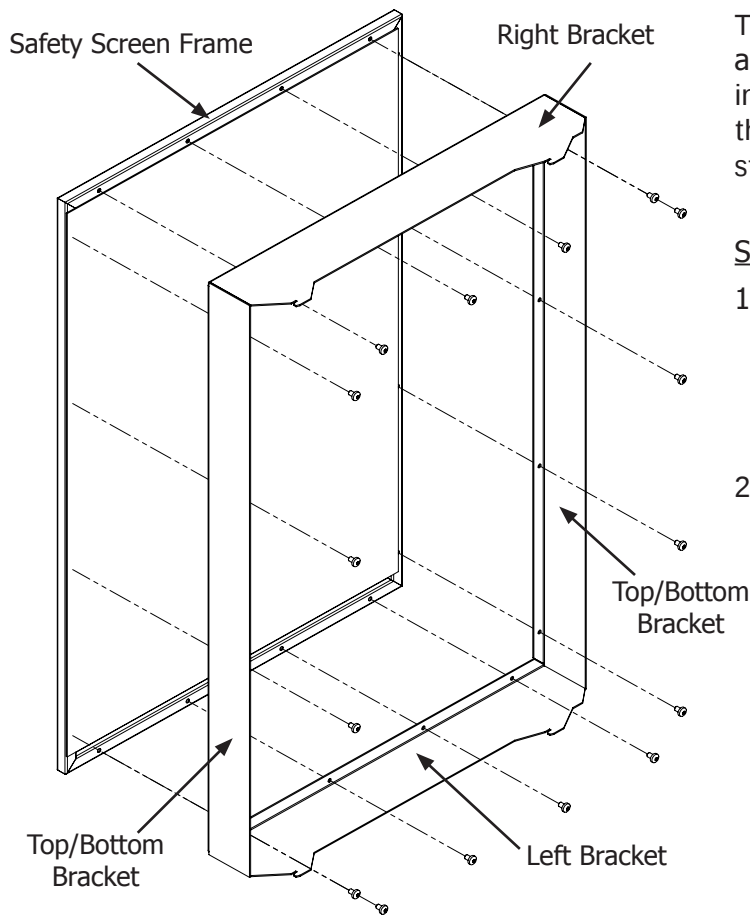

Figure 51: Installing Safety Screen Mounts.
1. Attach the left, right, top/bottom brackets onto the safety screen using a T20 screwdriver and the supplied sixteen (16) #8 T20 screws (see Figure 51). Do not over-tighten the screws, doing so could cause them to strip out of the screen frame.